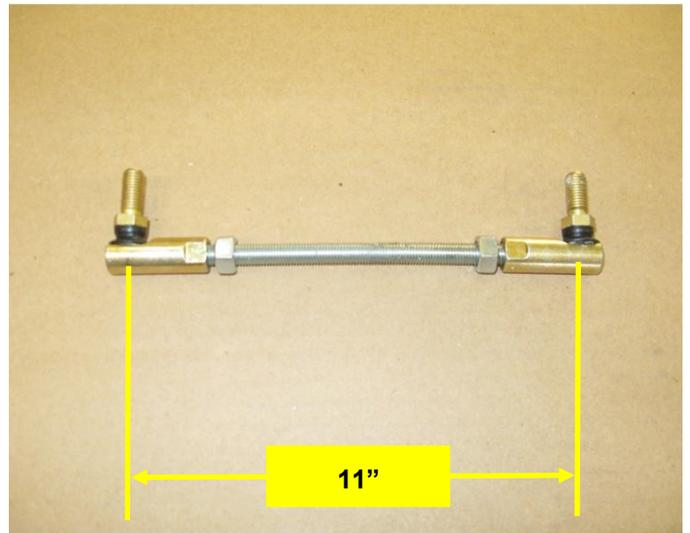

Figure 33
Install the assembled WAS linkage from Figure 33 between the rod bracket (item 3) and the last hole in the connector are (item 1). Install the linkage with the swivel stud downward at the rod link bracket, upward at the connector arm. Leave the swivel stud nuts loose.